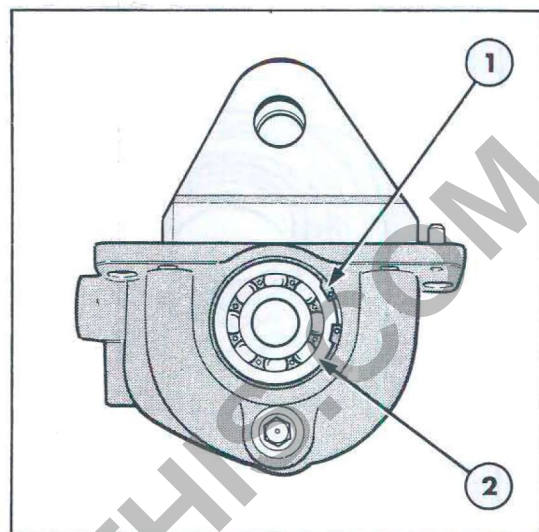

Figure 8
13. Remove the rear bearing snap ring, Figure 8 and using a suitable press and step plate adaptors Tool Nos. 630T/14 and 15 or 9211, remove bearing.